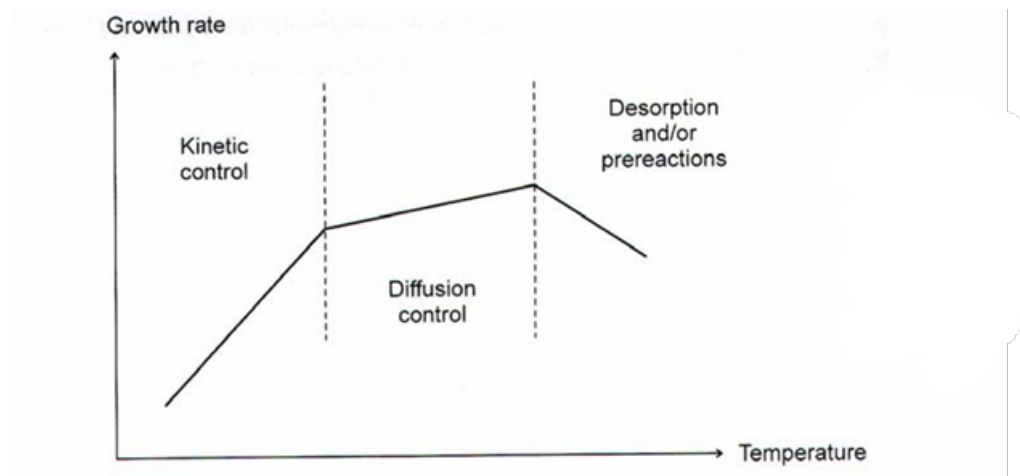
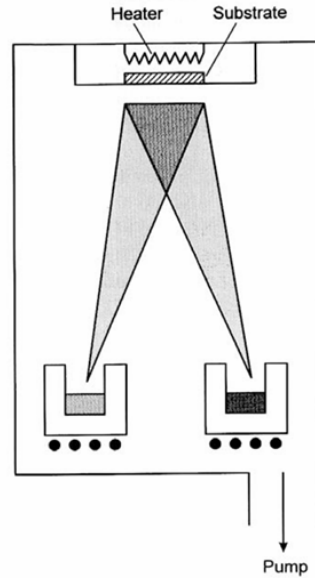

Figure 3: Dependence of the film growth rate on the substrate temperature.
Figure 4: Molecular Beam Epitaxy (MBE)
In the RF sputtering method, the cathode and anode are connected in series with a blocking capacitor ( $C$ ) (Figure 3). This capacitor is part of an impedance matching network that optimizes power transfer from the RF source to the plasma. All Vac Coat RF power supplies include an RF matching network to precisely tune the RF power, either manually or automatically.
A schematic of the RF sputtering circuit is shown in Figure 3. If  $V_{RF}$  is set to about 500 V (Figure 4-a) without a blocking capacitor, the target current will exhibit the behavior shown in Figure 4-b. Since the plasma potential is close to ground, the current density oscillates between  $J_{ion}$  and  $-qz$ , depending on the sign of  $V_{RF}$ . As a result, the net current is not zero.
When a blocking capacitor is used and a self-bias DC voltage is applied, the cathode voltage is expressed by Equation (2) (Figure 4-c):
The electrode voltage and current curves for an RF circuit demonstrate the importance of the blocking capacitor in ensuring net-zero current. Figure 4 illustrates the voltage and current characteristics for different configurations.